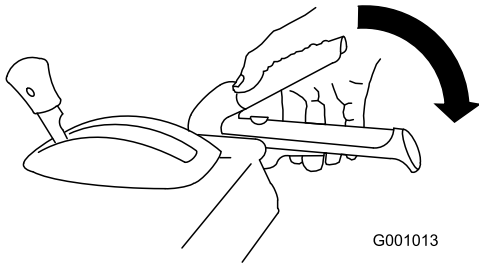

Figure 31
1. To engage the auger/ impeller drive, squeeze the right hand (auger/ impeller) lever to the handgrip (Figure 31).